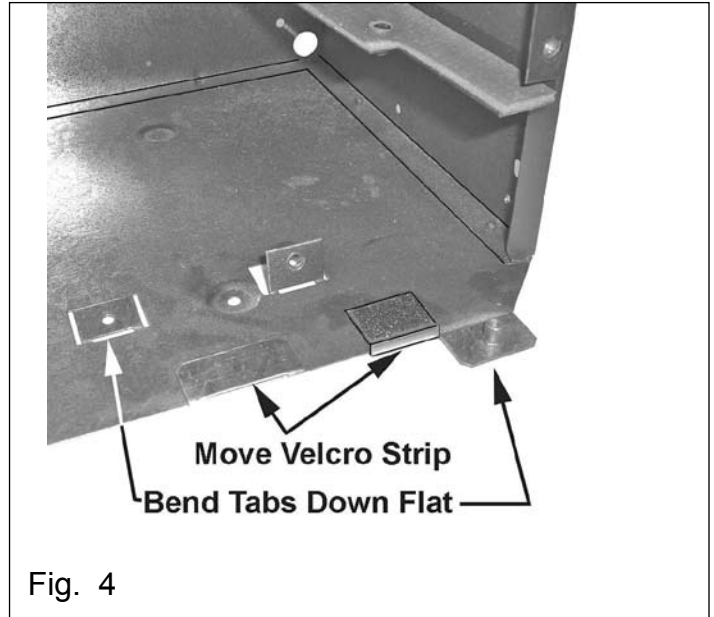

Fig. 4
- Move Velcro Strip to the right and bend 2 sheet metal tabs down flat (see Fig. 4).